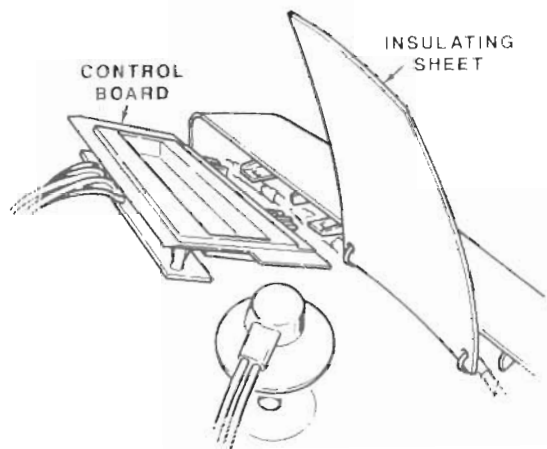

Figure 3-5. Control Board Removal
1. Refer to Figure 3-5 and slide the control board back and up from the tracks that hold it.